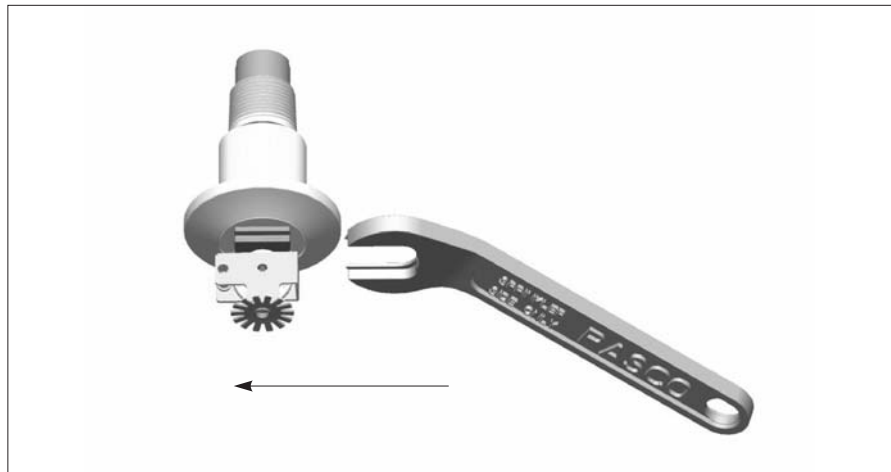

Fig. 4 - G3 Wrench
- Model G3 Wrench (Fig. 4) is used for installation of Pendent and Horizontal sidewall sprinklers.